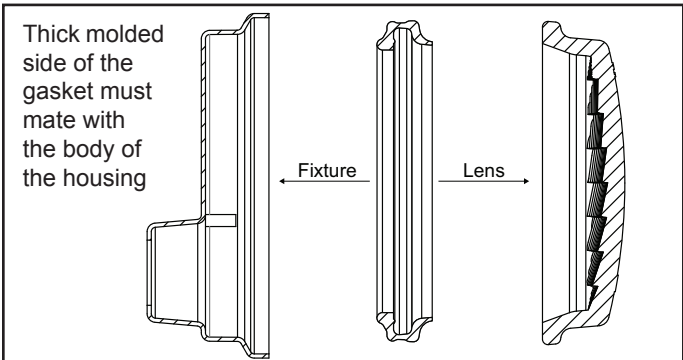

Figure 10. Cross Section of Jandy Pro Series White LED Light
- While holding the fixture upright, place the glass lens with the gasket on top of the fixture. Please note that the lens gasket is not symmetrical. Therefore, it must be installed correctly so that the lens can seal to the fixture housing. Place the gasket on the lens with the orientation shown in Figure 10. On the small light, replace the diverger by tucking the tabs between the lens and gasket.